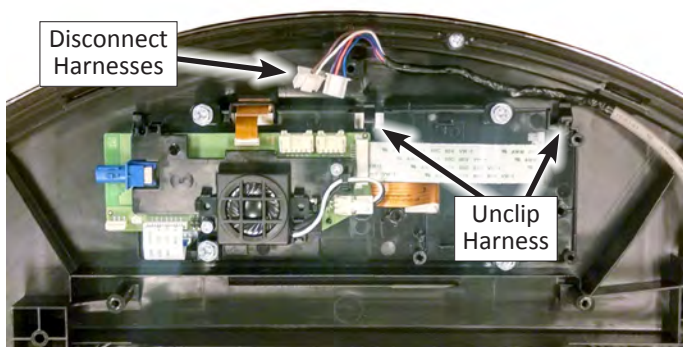

Figure 5
7. Disconnect the ACU and Drum Light harnesses from the HMI. Unclip harness from HMI enclosure. See Figure 5.